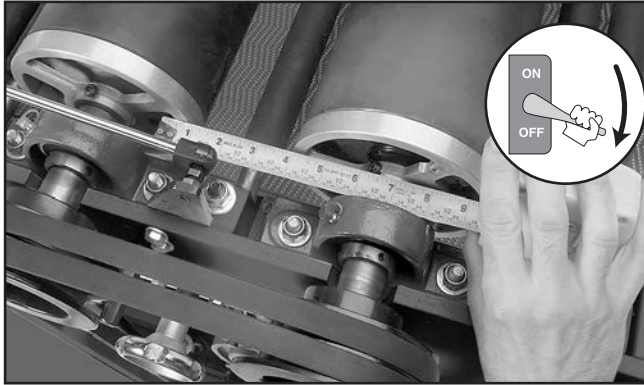

Figure 56. Measuring distance between rear and front drums.
8. Measure the distance between the rear and front drum, as shown in **Figure 56**, on both sides.